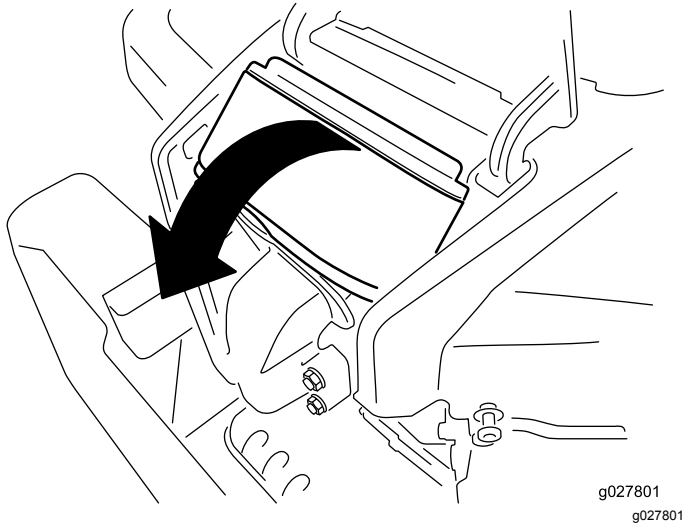

Figure 39
4. Lift the cover and rotate the air-cleaner assembly out of the engine (Figure 39).